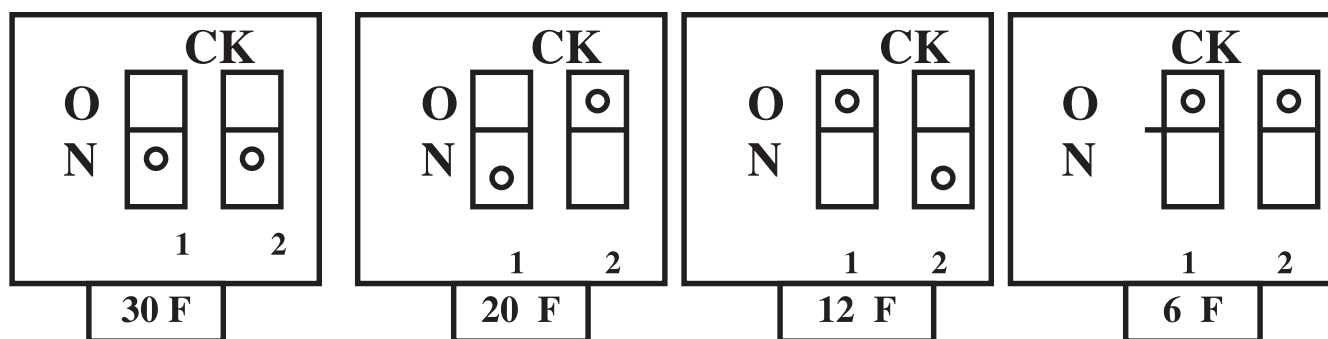

Figure 7.1: Differential DIP Switch Adjustments
- b. Temperature Differential Adjustment: A "DIP" switch is located on the control board. Depending upon the configuration of the "DIP" switch, the differential selection is 6, 12, 20, or 30. See figure 7.1 for further detail.